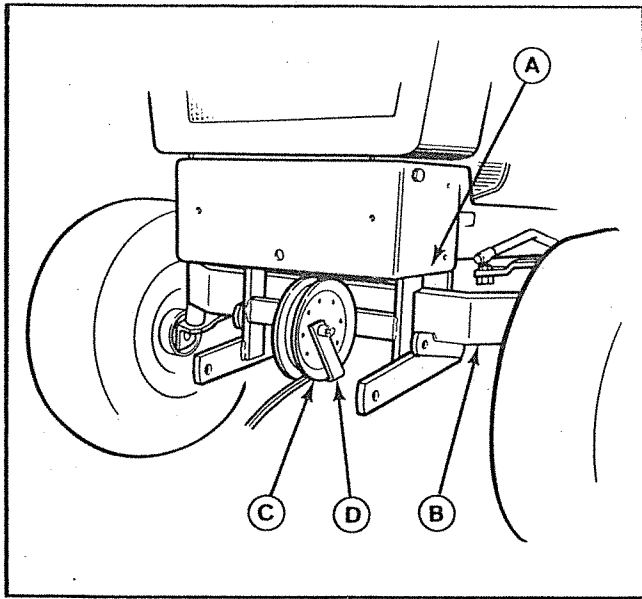
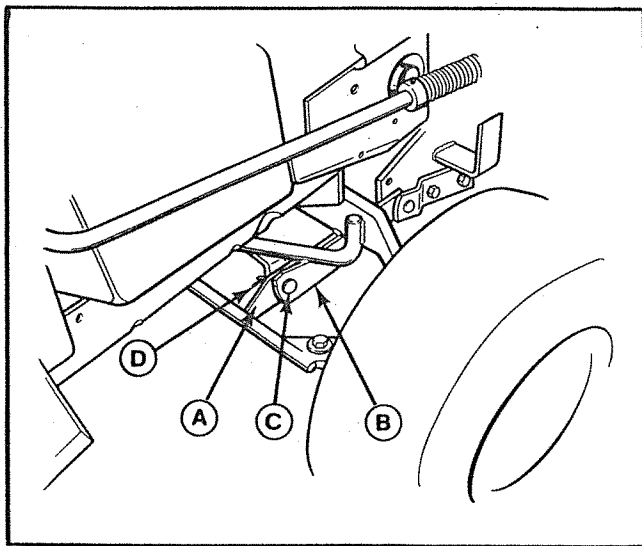

Figure 1. Installing Hitch
Figure 2. Installing Hitch
1. The snowthrower hitch must be installed on front axle as shown in figure 1. To do this, first insert the hitch arms in tractor hitch as shown in figure 2. To align the holes, push the snowthrower hitch onto the front axle so it hooks firmly on top of axle as shown in figure 1. Insert the two pins (C, figure 2) to secure the hitch and install the two spring clips (D).